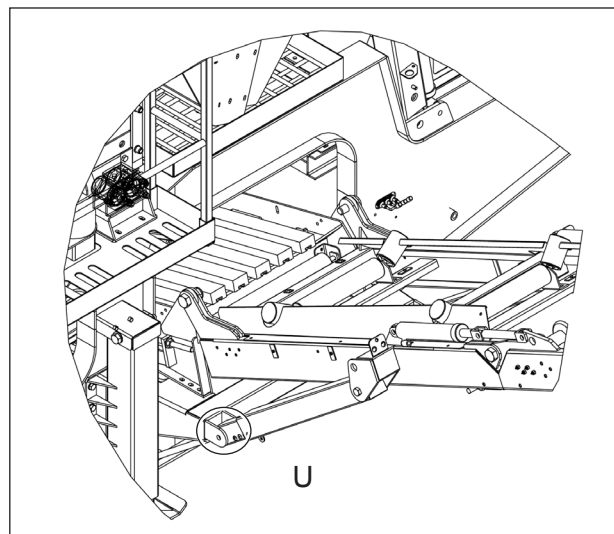

Figure 6.4 - Working Position Pins
9. Insert the working position pins (U) 1 off LH/RH, Ref: Figure 6.4.